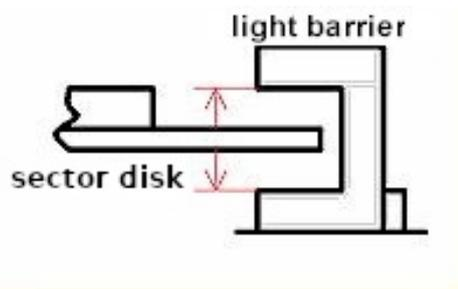

Figure 3 Ensure correct alignment of sector disk and light barrier.
- Now tighten the two set screws in the disk. Make sure that the sector disk is approximately in the centre of the light barrier cutout, see figure 3. Replace the spark plug caps, the bike is ready to start.